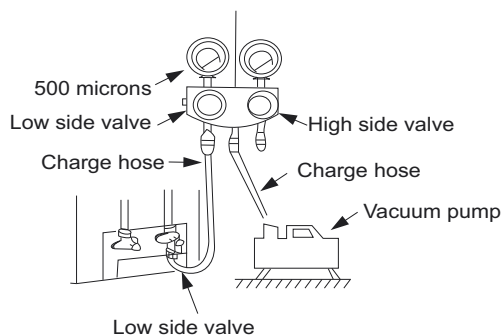

Fig. 22 — Manifold
3. Fully open the low side of manifold gage (see Fig. 22).